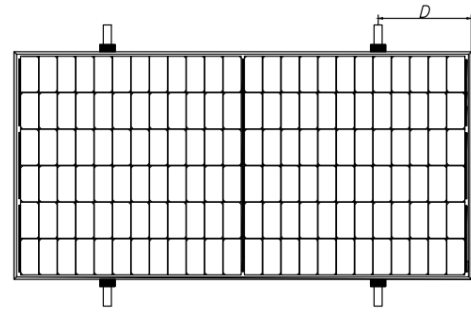
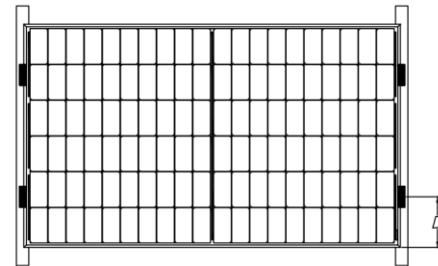

Fig. 8 Rails overlapping the long-side frame
Fig. 9 Rails overlapping the short-side frame
Photovoltaic modules can be installed across the support frame (Fig. 8) or parallel to the frame of the photovoltaic module (Fig. 9). When using clamps to install, each module must be secured with a minimum of 4 clamps.
- ⑧ For the installation method shown in Fig. 9, the module needs to be fixed with professional clamps (as shown in Fig. 13), and the overlap between the C side of the module and the rail should be ≥ 15 mm. Chint's limited warranty will be void if improper clamps or improper installation is used.